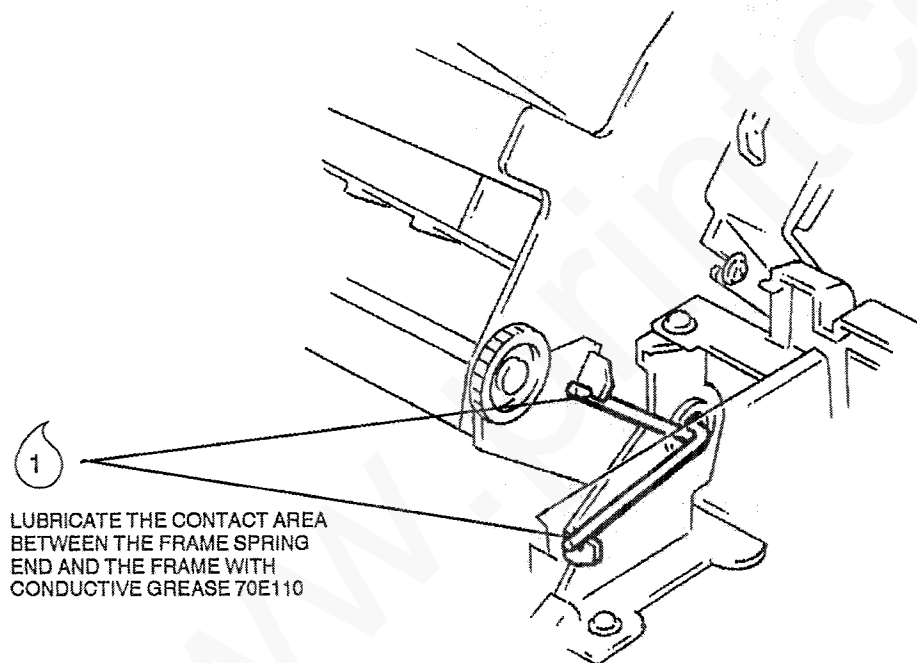

Figure 1. Lubricating frame spring
3. (Figure 1) Lubricate the frame springs as indicated.